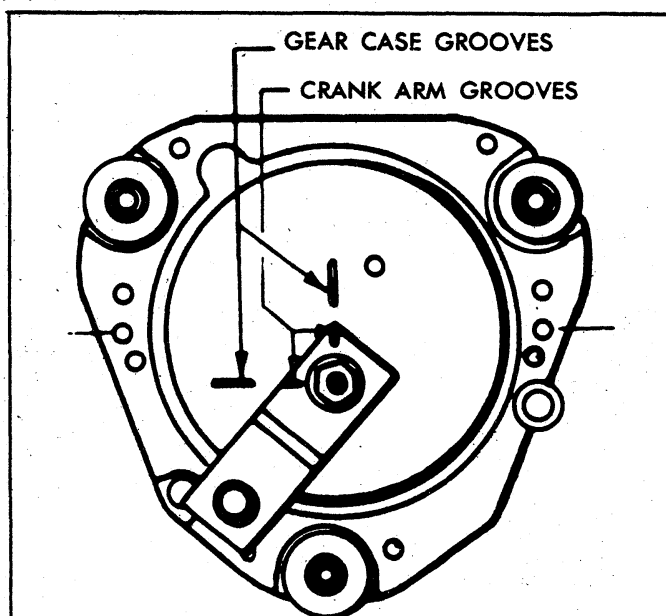

Fig. 70 - Wiper Crank Arm in Park Position
2. Place wiper in park position and install crank arm on output shaft, rotate crank so alignment marks line up with those on cover (fig. 70).